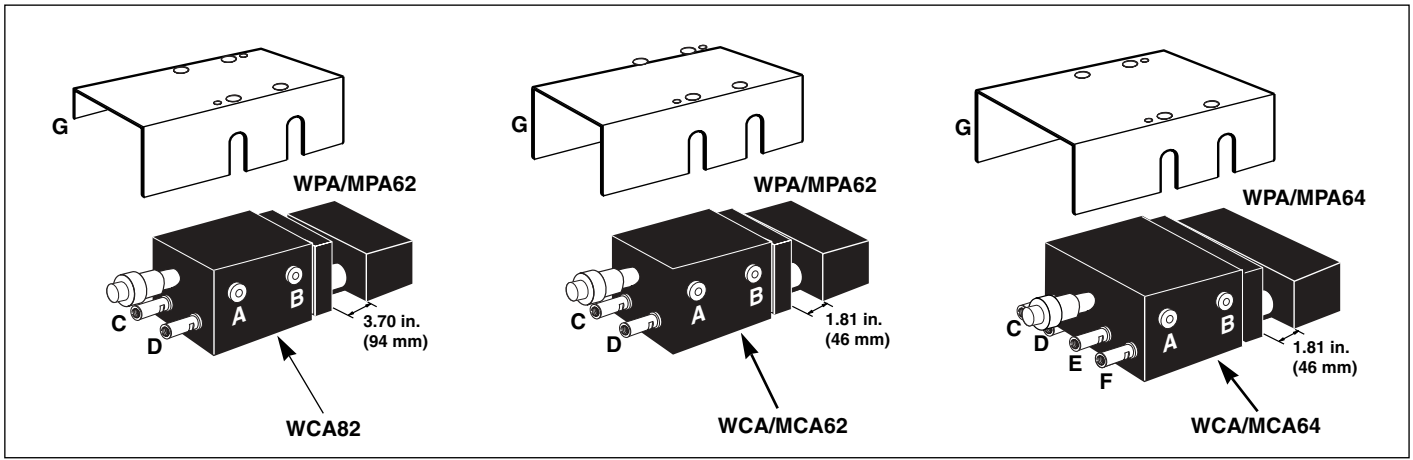

Figure 2, Set-up and Mounting of Auto Coupler without Alignment Tool
1. Remove protection plate "G" (see Figure 2).
In this type of application, the WPA/MPA receiver block is mounted first and the base station aligned to. Note the spacing between the base station and receiver as shown in Figure 2.
1. Use flexible hoses for lines leading to base station workholding functions. (See Figure 2, C, D, E, and F.)